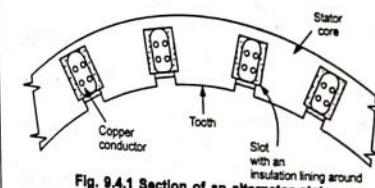

Fig. 9.4.1 Section of an alternator stator
- The section of an alternator stator is shown in the Fig. 9.4.1.